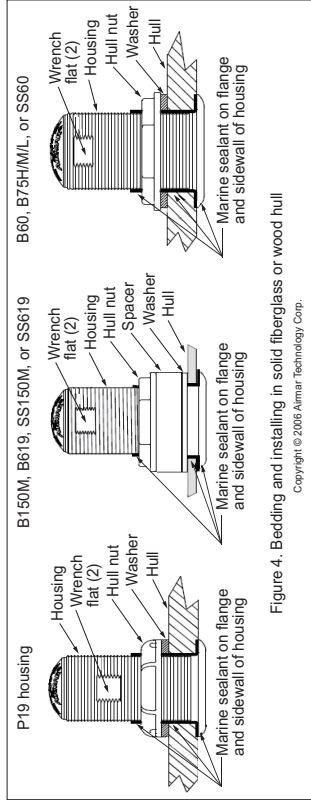

Figure 4. Bedding and installing in solid fiberglass or wood hull
Apply a 2 mm (1/16") thick layer of marine sealant around the flange of the housing that contacts the hull and up the sidewall of the housing (see Figure 4 or 5). The sealant must extend 6 mm (1/4") higher than the combined thickness of the hull, washer(s), hull nut, and any spacer. This will ensure there is marine sealant in the threads to seal the hull and to hold the hull nut securely in place.
2. Slide the washer onto the housing (see Figure 4 or 5). **B150M, B619, SS150M, SS619** - Also slide the spacer onto the housing and rest it against the washer. Do not use the spacer if there is insufficient space to tighten the nut or it is within 11 mm (1/2") of the top of the housing.